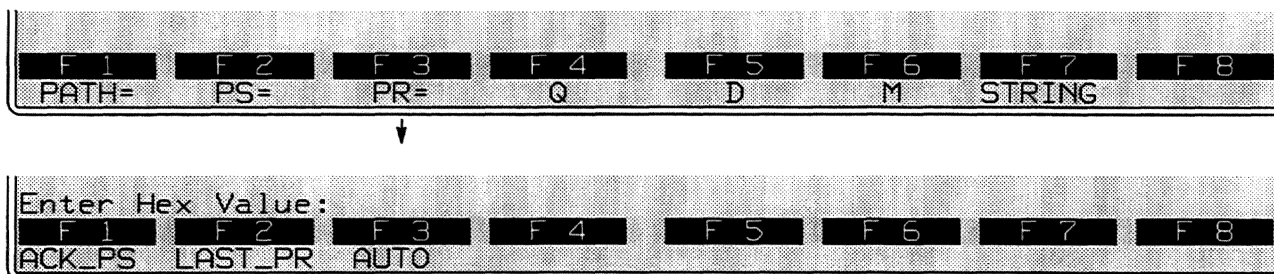

Figure 38-28 The P(R) field may be specified in data and supervisory packets to be sent.
8. *P(R)*. To specify a P(R) value, press the softkey for PR= (see Figure 38-28). Enter a hexadecimal value written as one or two alphanumeric digits. Valid hex entries are the same as for P(S).
Other P(R) options are ACK_PS, LAST_PR, and AUTO. (See Figure 38-28.) ACK_PS means that your P(R) will acknowledge (that is, it will be *one higher than*) the last P(S) value you received. Normally this will be the correct P(R), except in cases where the last P(S) received was erroneous. The PR= ACK_PS selection allows you to overlook P(S) errors.
9. *Q, D, and M.* Softkeys for Q, D, and M are included in the full set of optional parameters for a SEND DATA action in the top rack of Figure 38-28.
Press the SEND softkey followed by the softkey for a packet type. Add any necessary or desired SEND options for the particular packet type. Then press the STRING softkey (see Figure 38-28, for example).